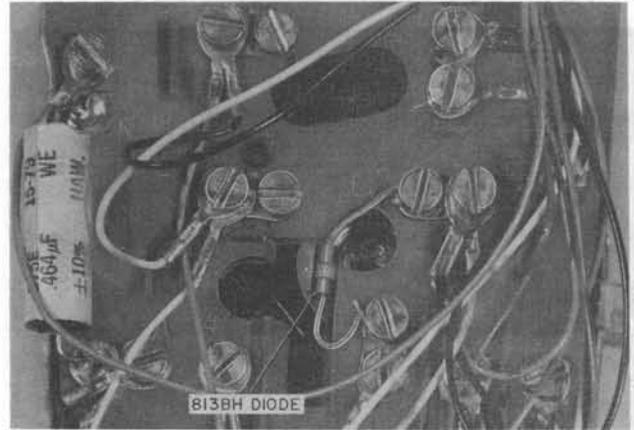

Fig. 19—Typical Installation of 813BH Diode in AC- or AD-Type Telephone Base
- 3.27 The 426N (MD) or 813BH diode (Fig. 19), furnished in this kit of parts is intended for use with AC- or AD-type (except AC2PH and AD3H) when connecting for 4-party full selective or 8-party semiselective ringing. Place the diode in the opening provided in the terminal board. Dress the leads to the appropriate terminal board terminals and replace the existing screw terminals with the two screws from the kit of parts. Refer to Table E for orientation of diode and terminal connections. Refer to Section 501-320-100 for additional information on kit of parts.